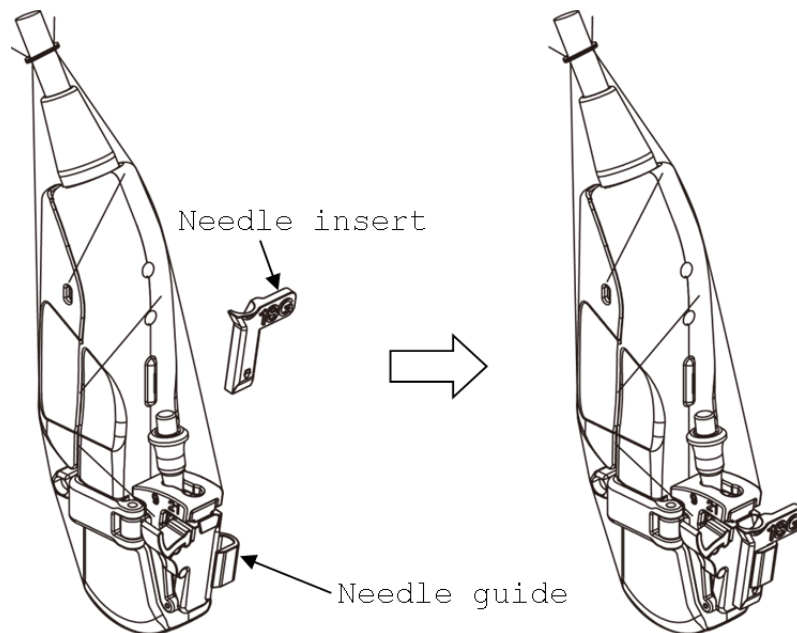

Fig.15 Attaching the needle insert
- 4) Slide the needle insert into the needle guide by aligning the arrow tips. (See Fig.15) Inspect the guide and cover assembly to ensure the needle path is clear of obstructions.